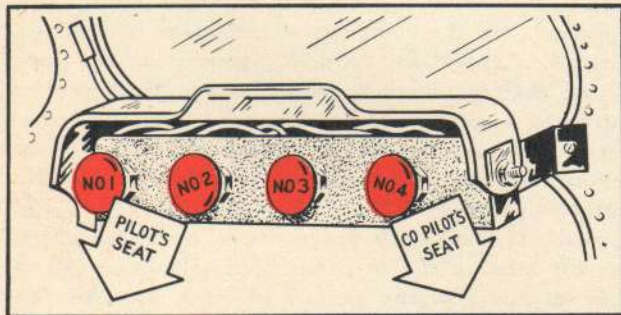

Figure 34—Propeller Feathering Switch Buttons
(1) Press the feathering switch button. (See figure 34.)